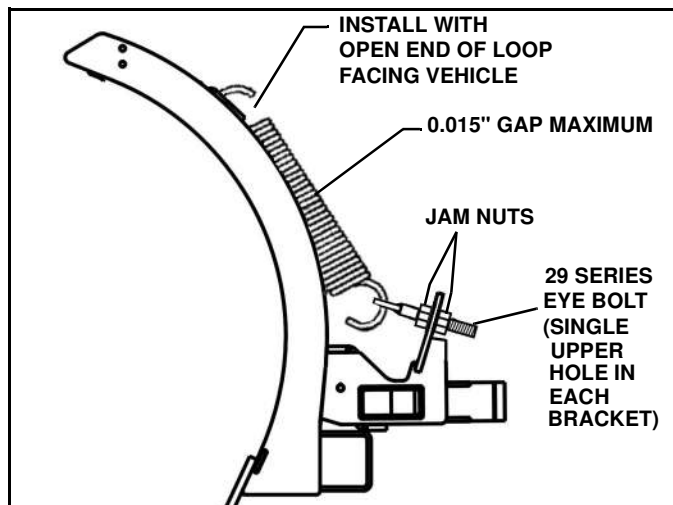

Figure 2-21
4. **29SKD SERIES BLADE ONLY:** Three eyebolt mounting holes are present in each swing frame spring bracket on this model. Only one spring and eyebolt are used on each side of the plow, and must be secured in the single upper hole of each spring bracket. A jam nut on either side of the spring bracket secures each eyebolt and provides for adjustment. (See Figure 2-21).